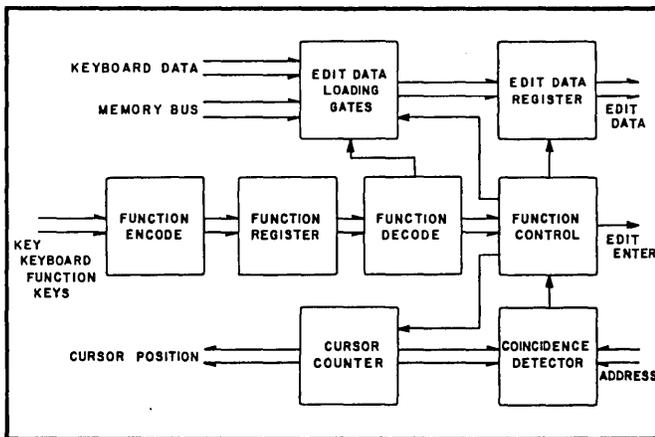

Figure 3-3. Edit Logic Circuits
3.4 EDIT LOGIC (See Figure 3-3)